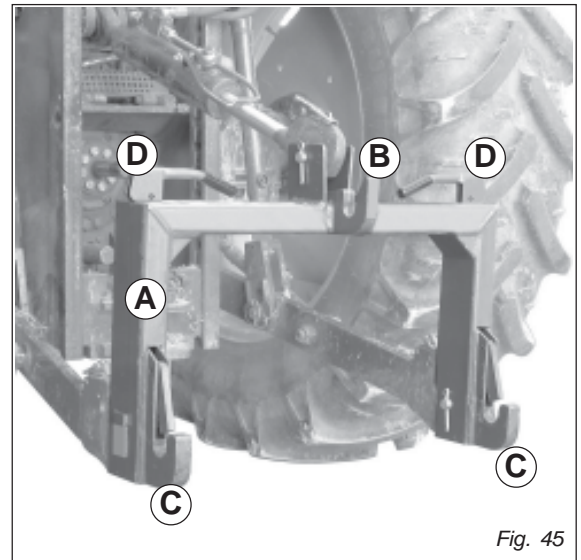
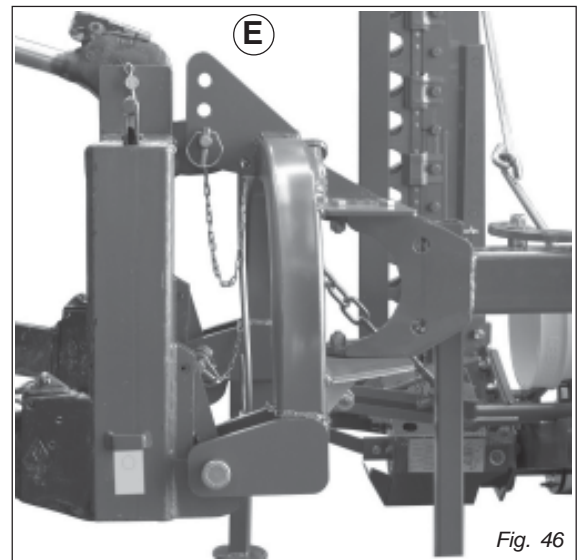

Fig. 45
Fig. 46
- 1) Install hitch Quick Coupler (A, Fig. 45) on the tractor (see tractor operator manual).
- 2) Parking the sickle bar on a flat and compact ground supported by the relative supports. Then slowly move the tractor back until the Quick Coupler (A) is in range with the point hitches (B and C, Fig. 45).
- 3) Raise the Quick Coupler (A, Fig. 45) and make sure that sickle bar hitch is in the right position (E, Fig. 46).
4. Raise the two Quick Coupler levers (D, Fig. 45) to unloch sickle bar.